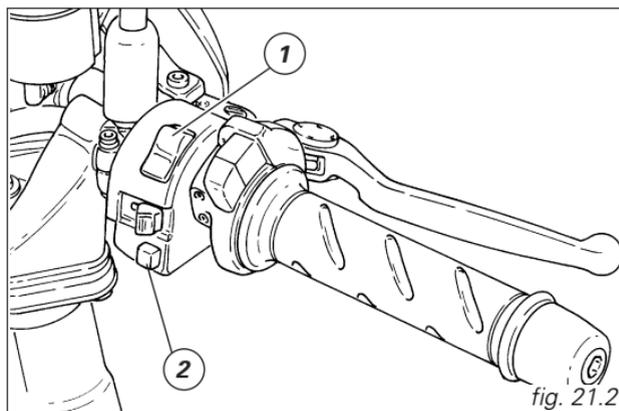

fig. 21.2
3) Check that the stop switch (1, fig. 21.2) is positioned to  (**RUN**), then press the starter button (2). Let the engine start without using the throttle control.